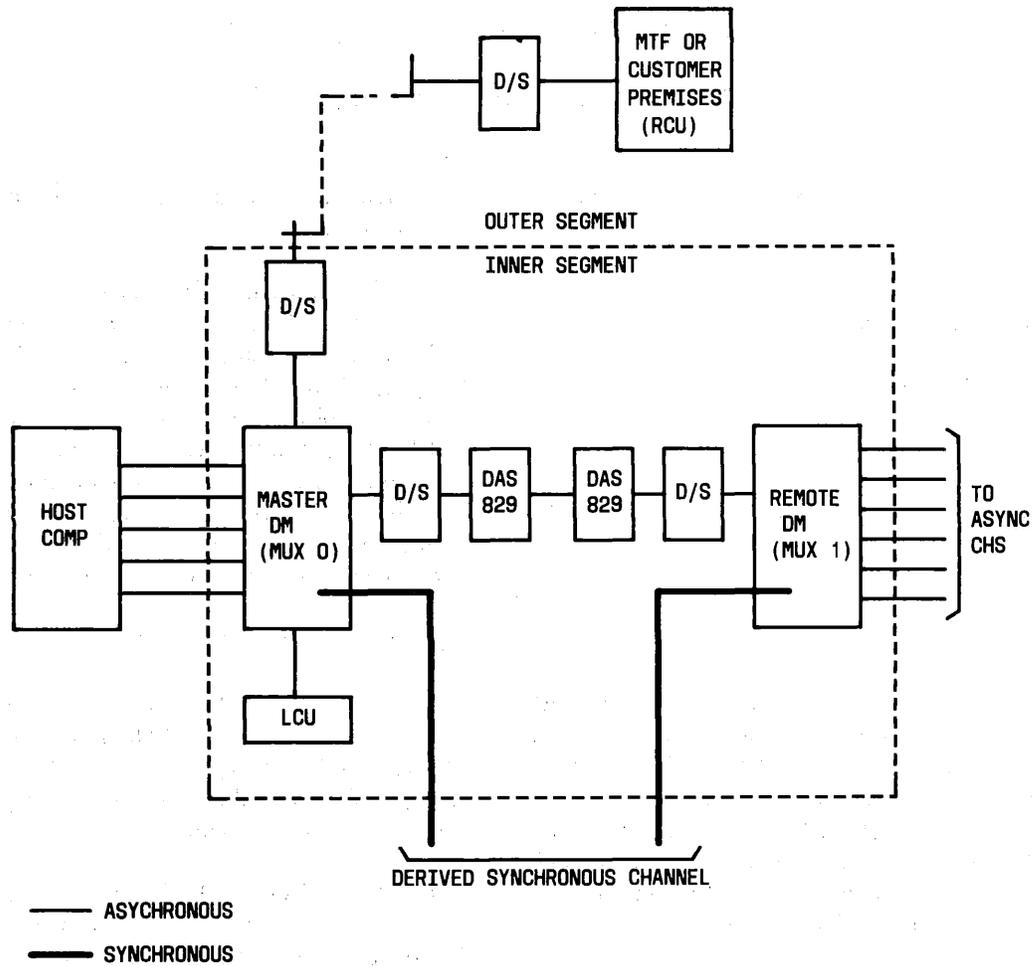

Fig. 1—Typical DMS Network
1.01 This section contains the physical and functional descriptions of the 1800B-L1 data control unit (referred to as RCU). The RCU is remotely located at a customer premises or at a multiplex test facility (MTF) and gains access to the Data Multiplex System (DMS) via a direct distance dialing (DDD) connection to the master data multiplexer (DM). See Fig. 1.